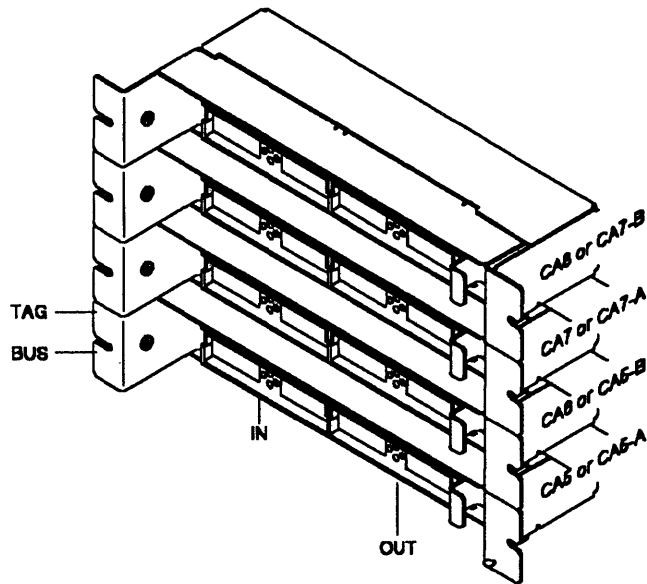

Figure 3-4. Channel Distribution on Tailgate. (Interfaces A and B are used when the TPS feature is present.)
Note: Up to four CAs are available. They are numbered from 5 to 8 (CAs 1-4 are not used, see Figure 3-4 on page 3-10 for CA numbering on the tailgate).
- b. Make sure that a BUS terminator (P/N 2282675) and a TAG terminator (P/N 2282676) are installed on the BUS OUT and TAG OUT connectors (light gray) of the first channel interface to be tested (see Figure 3-4 on page 3-10).
- d. When asked by the diagnostic, **install** the BUS and TAG wrap tools in the IN row (dark gray) of the CA interface being tested (see Figure 3-4 on page 3-10). Then type **R** and press **SEND**.
- a. **Connect the CA interface cables** for channels 5 through 8 to the 3745 tailgate in 01P (for channel positions, refer to Figure 3-4).